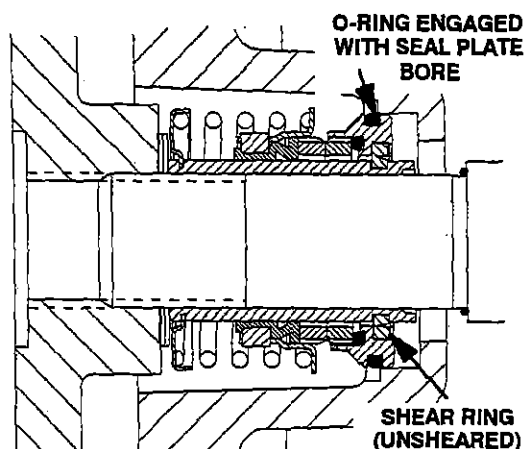

Figure 6. Seal Partially Installed
Clean and inspect the impeller as described in **Impeller Installation and Adjustment**. Install the full set of impeller shims (23) provided with the seal, and screw the impeller onto the shaft until it is seated against the seal (see Figure 6).